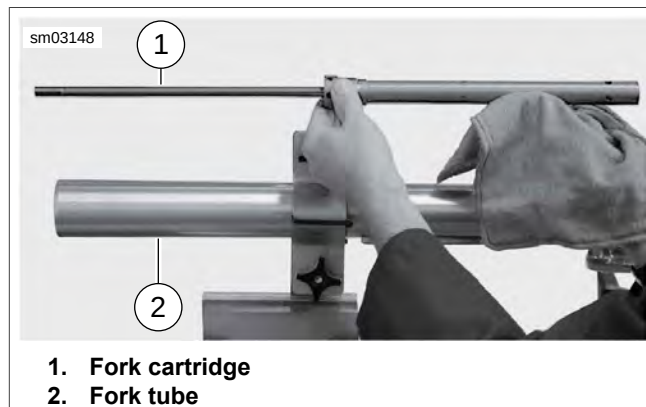

Figure 2-101. Install Fork Cartridge
- See Figure 2-101. Using FRONT FORK TUBE HOLDER (Part No. HD-41177), mount fork assembly in vise.